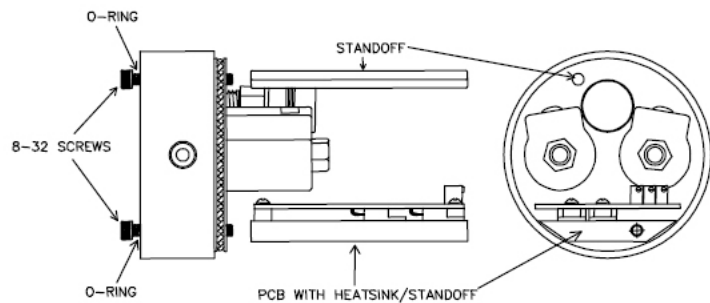

Figure 10
- Figure 10** Remove the two 8-32 SHCS screws and O-rings from manifold to remove both the regular tall standoff and the board standoff.
1. Place O-rings on two 8-32 SHCS screws line up with holes through bottom side of manifold. **Figure 10**
2. Place board standoff, pots facing up, on valve side, opposite sensor and fasten with 8-32 SHCS screw. **Figure 10**
3. Place regular tall standoff on sensor side of manifold and fasten with 8-32 SHCS screw tighten 7-8 in. lb. of torque. **Figure 10**